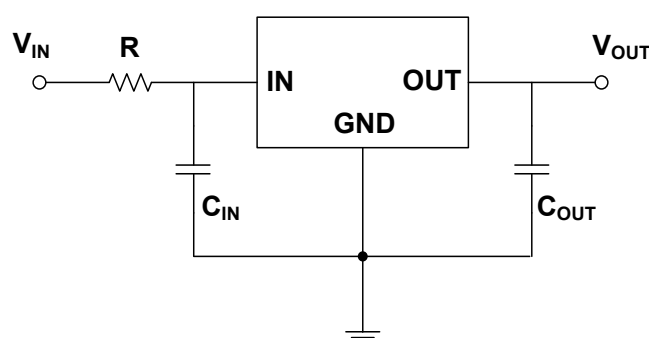

Figure 9-2. Resistance is used at IN
2. Place a resistor with appropriate resistance in series before the IN of the voltage regulator, which can help the voltage regulator share part of the energy in case of surge. The resistance value of the resistance should not be too large. The specific resistance value depends on the application of the circuit. Generally, the resistance value of this resistance does not exceed 20Ω . As shown in Figure 9-2.
For the CJ78M series, it is recommended that the input voltage should not exceed 17V and the peak voltage should not exceed 35V. **When the input voltage is greater than 17V, or the peak voltage that may be greater than 35V may appear in the practical circuit, it is recommended to adopt the circuit layout shown in Figure 9-2 in the circuit design.**
The CJ78M series can obtain better transient response with the help of output capacitance. However, if the output capacitor is relatively large, the surge current generated by the charging of the output capacitor will also be large at the moment of power on of the regulator, and the large surge current passing through the regulator may damage the internal circuit. When the output capacitance is large, adopting the circuit design shown in Figure 9-2 will reduce the possibility of damage to the device due to large surge current to a certain extent. It is recommended that the selection of output capacitor should not exceed $20\mu\text{F}$. **If the selection of output capacitor exceeds $20\mu\text{F}$, it is recommended to adopt the circuit design in Figure 9-2 to reduce the possibility of accidental failure of the device due to large surge current during power on.**
It is recommended that the output capacitor (C_{OUT}) should not exceed $20\mu\text{F}$. When the output capacitor (C_{OUT}) exceeds $20\mu\text{F}$, it is recommended to use the circuit layout shown in Figure 9-2. See *Large Output Capacitance* for more details.